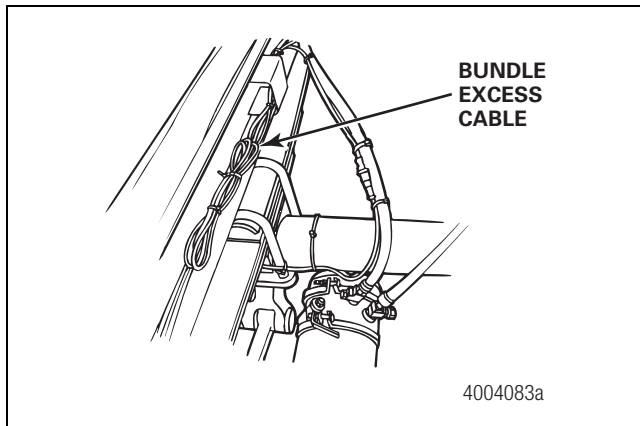

Figure 11
8. Bundle any excess cable into a bow tie. Figure 11.
6. Bundle any excess cable into a bow tie. Figure 11.
6. Bundle any excess cable into a bow tie and secure the cable in the subframe. Figure 11.